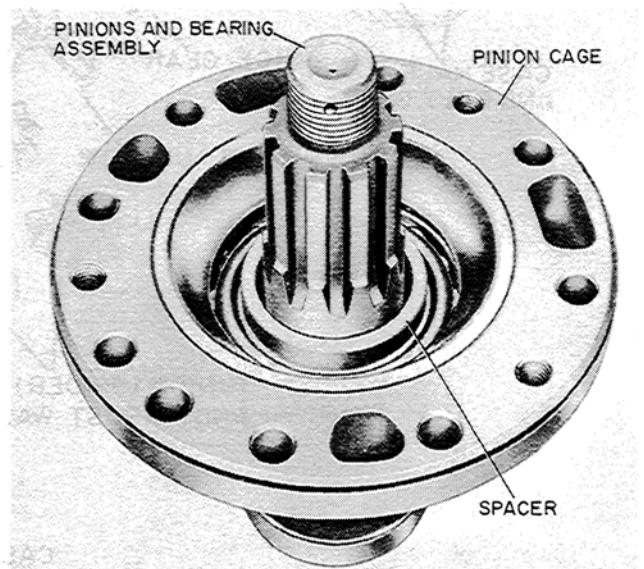

Figure T-54
4. Place the pinion cage over the pinion and bearing assembly and install spacer over the pinion shaft, Figure T-54.